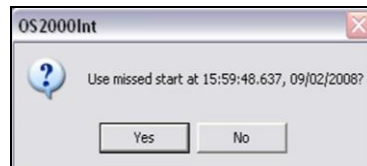

Figure 28: Always Ready Start
- a. Click **RESET** and then **Yes** to reset the time to zero. The message in *Figure 28* displays on the screen at this time.